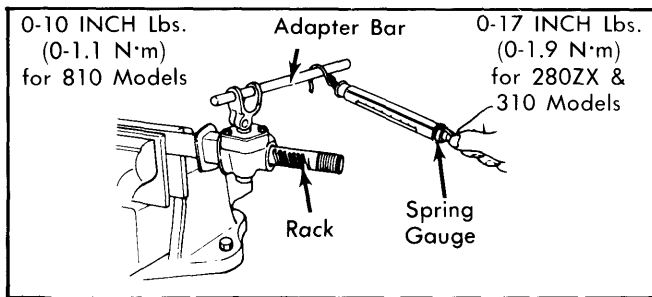

Fig. 2 Measuring Pinion Shaft Rotating Torque
6) With steering gear assembled, measure torque required to keep pinion and rack in motion. Install steering gear in padded vise and attach torque wrench to bar and spring gauge. See Fig. 2. Pinion turning torque should be 0-17 INCH Lbs. (1.9 N·m) for 280ZX & 310 models; 0-10 INCH Lbs. (0-1.1 N·m) for 810 models.